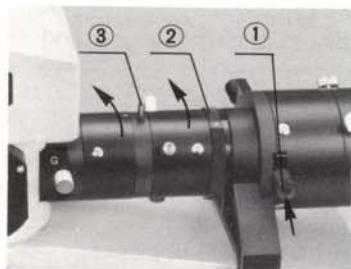

Fig. 5
- 1) Open the shutter ① by sliding it in the arrow's direction all the way. (Fig. 5)
- 2) Rotate the field iris diaphragm "F" ② and the aperture iris diaphragm "A" ③ counter-clockwise to the "maximum" position. (Fig. 5)